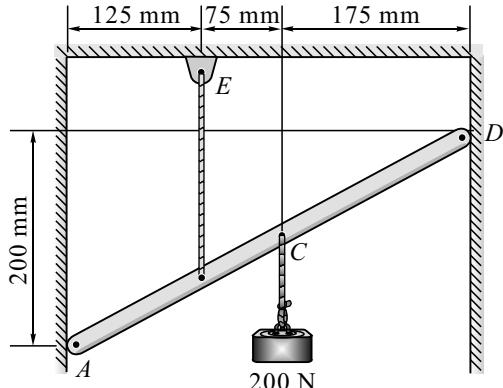

Fig. 3.E15
16. Neglecting friction, determine the tension in cable ABD and the reaction at support C , as shown in Fig. 3.E16.